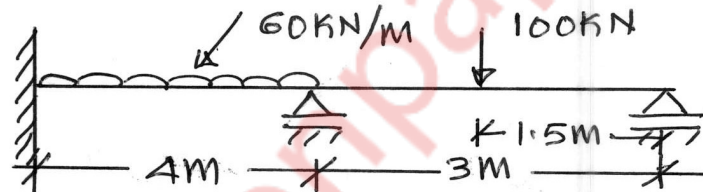

Figure 10
- b) Analyse the beam by **Stiffness Matrix Method**. (Refer Figure 10) 10